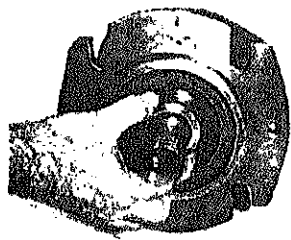

FIGURE 7-68.
f. Install stationary seal and retainer into place and press the retainer in so the snap ring groove is open (see figure 7-68).